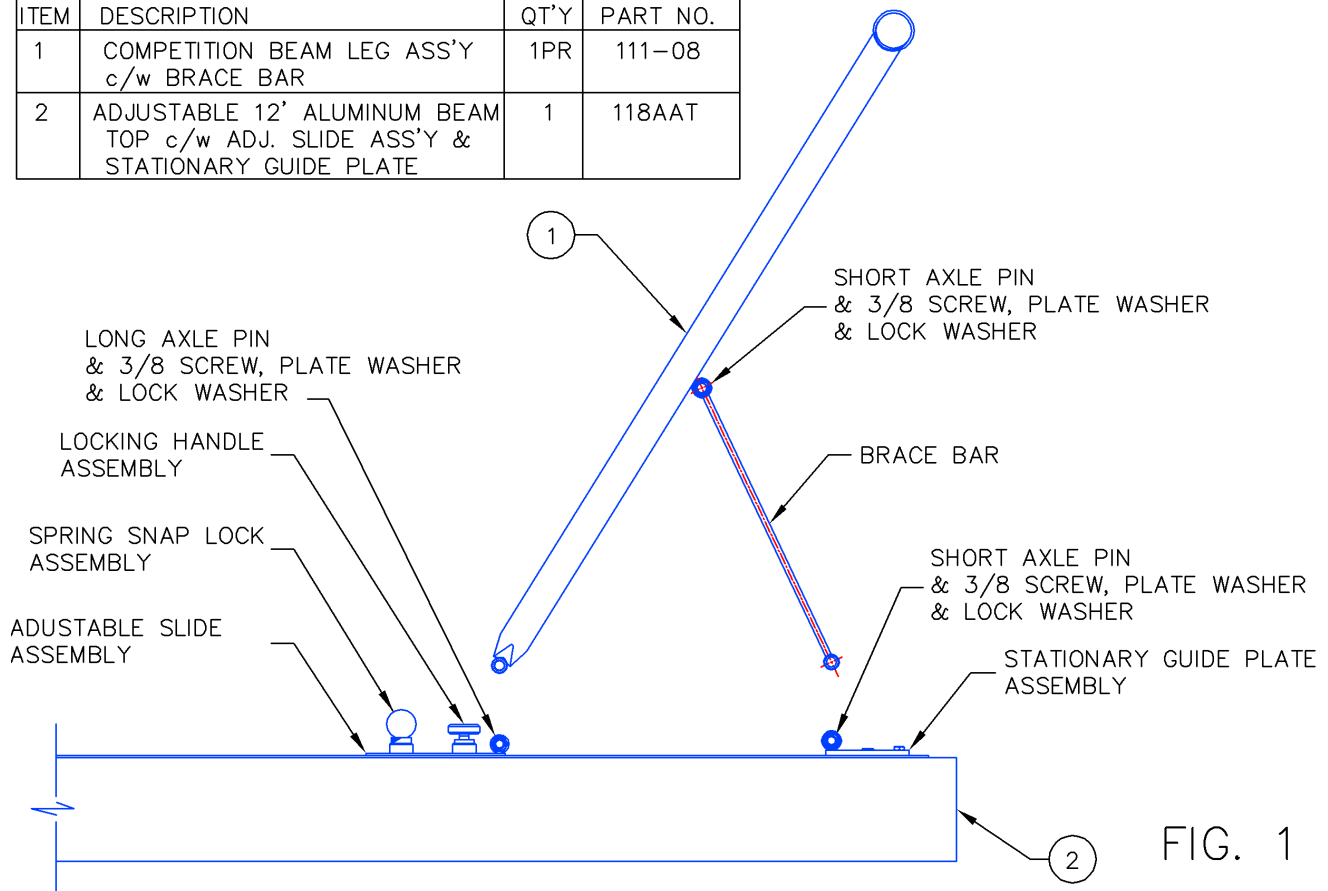

FIG. 1
You have received two (2) shipping cartons. One carton contains the **118AAT Adjustable 12ft. Aluminum Beam Top** assembled complete with one (1) Stationary Guide Plate Assembly and one (1) Adjustable Slide Assembly (see Fig.1) at each end. The second shipping carton contains the **Beam Legs**. These are completely assembled with Brace Bars and Foot Cups.
3. Remove the **Axle Pins** from the Adjustable Slide Assembly and Stationary Guide Plate at one end of the **Beam Top** (Fig.1 page 2), by removing one screw on each Axle Pin and pulling the pin out.
4. Slide the free end of the Brace Bar between the bushings of the Stationary Guide Plate Assembly (Fig. 1). Insert the short Axle Pin as shown in Fig. 1 and secure by tightening the hardware.
5. Slide the free end of the Main Upright over the bushings of the Adjustable Slide Assembly (Fig. 1). Insert the long Axle Pin as indicated in Fig. 1 and secure by tightening the hardware.